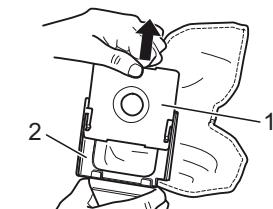

Fig. 20
6. Pull the dust filter bag (Fig. 20/1) out of the dust bag holder (Fig. 20/2).